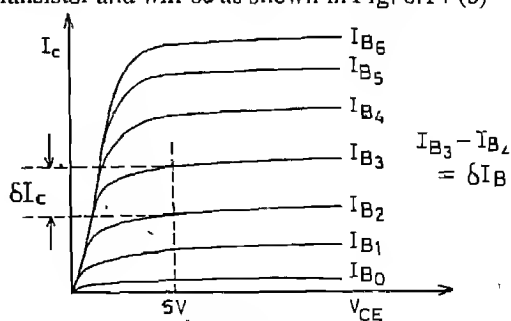

Fig 6.14 (b)
11. Now to find the value of the current gain β (which you know is the ratio $\Delta I_C / \Delta I_B$ at constant V_{CE}) choose a value of V_{CC} , say 5V, and choose two curves corresponding to two values of I_B as shown in the Fig. 6.14 (b). At 5V points on these curves find the values of the I_C from the graph. The ratio of the difference between the two values of the I_C to the difference between the two values of the I_B gives you the value of β at $V_{CE} = 5V$. Find β at three values of V_{CC} by choosing curves for different values of I_B . And conclude your results.